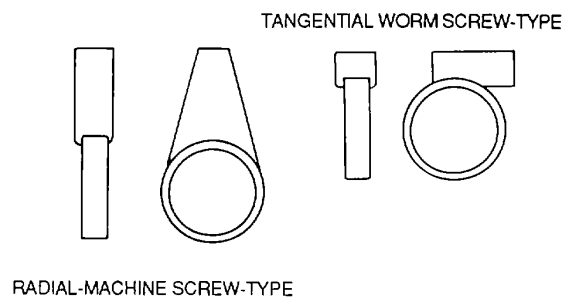

Figure 2-43. Hose Clamps
(2) *Hose clamp.* This clamp, as shown in figure 2-43, is used to attach hose to a hose fitting or tube to prevent leakage.